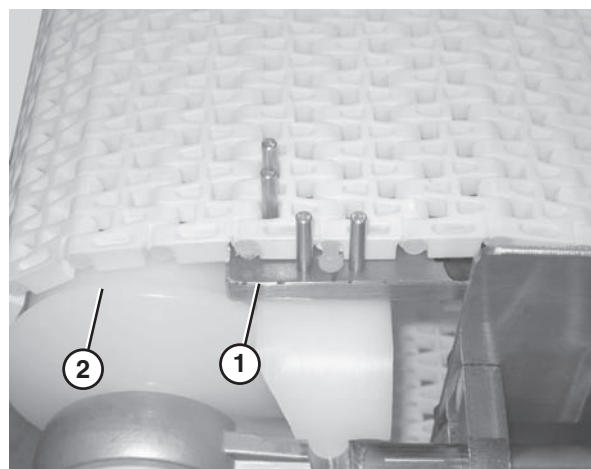

Figure 59
2. Secure the retaining head side of the belt. Use the belt removal tool (**Figure 59, item 1**) for 1" pitch belts. For all other belts, position the section of belt so that it is braced by the flanged puck (**Figure 59, item 2**).